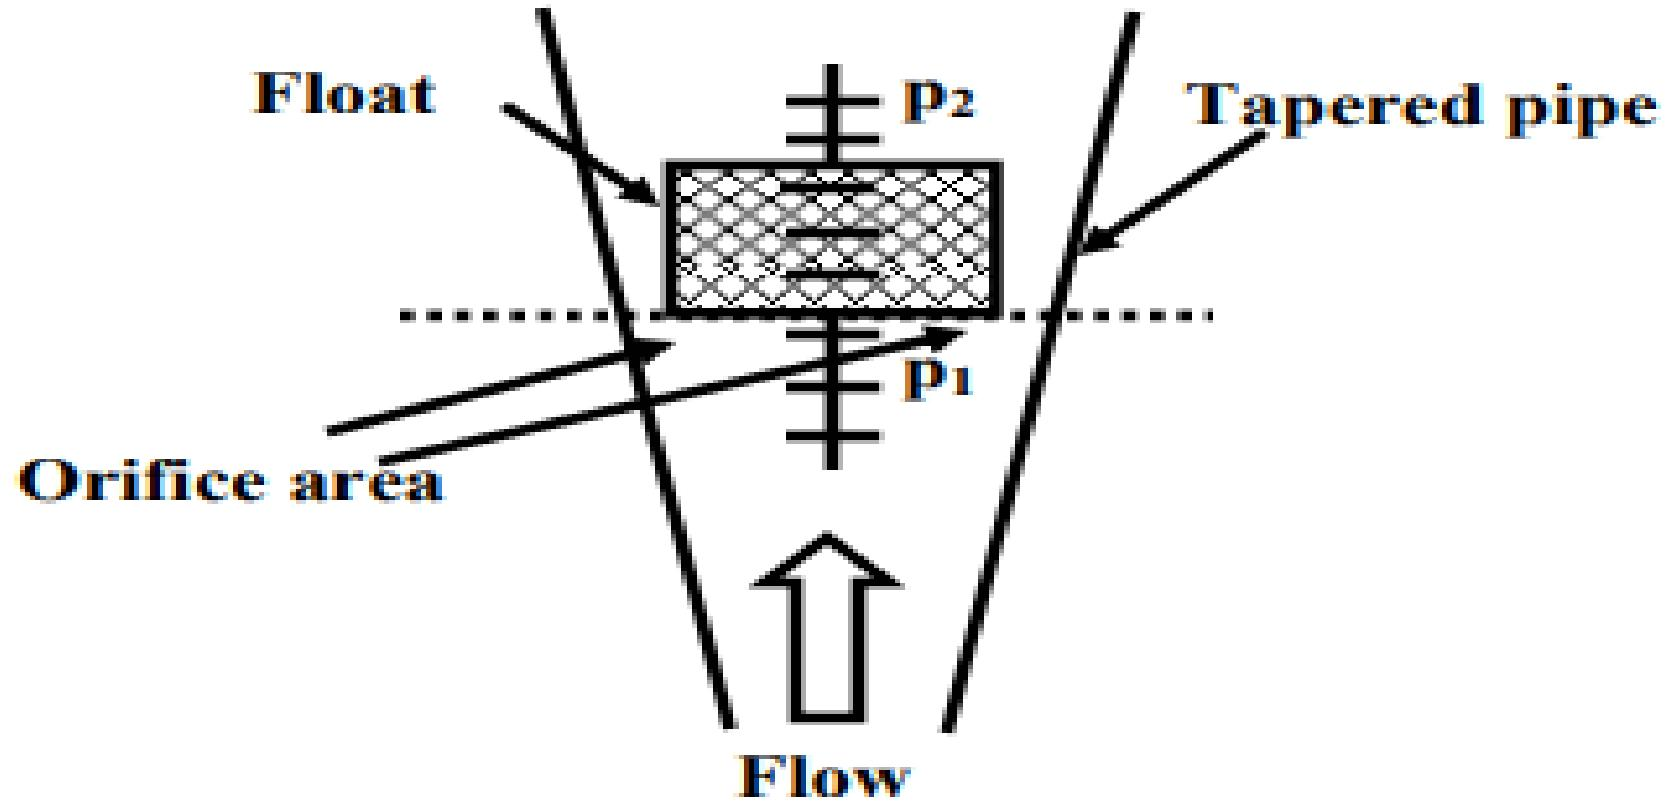

Fig. 7 Basic construction of a rotameter.
- The basic construction of a rotameter is shown in fig. 7. It consists of a vertical pipe, tapered downward. The flow passes from the bottom to the top. There is cylindrical type metallic float inside the tube. The fluid flows upward through the gap between the tube and the float. As the float moves up or down there is a change in the gap, as a result changing the area of the orifice. In fact, the float settles down at a position, where the pressure drop across the orifice will create an upward thrust that will balance the downward force due to the gravity. The position of the float is calibrated with the flow rate.